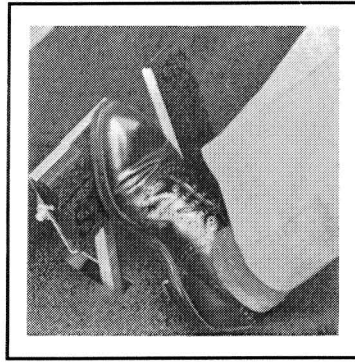

Figure 5
**Brake Pedal** - The brake pedal is the large pedal on the left with the word "STOP" molded in (See Figure 5). To slow or stop the vehicle, push the brake pedal with your right foot.